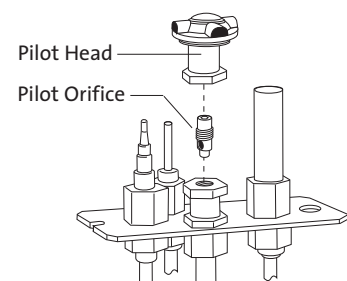

Figure 18.
8. Change the Pilot Orifice. From within the firebox, pull the pilot hood off the pilot assembly. See Fig. 18. Using the 4 mm allen wrench included with the conversion kit, remove the original pilot orifice (counterclockwise). Replace with the appropriate orifice: